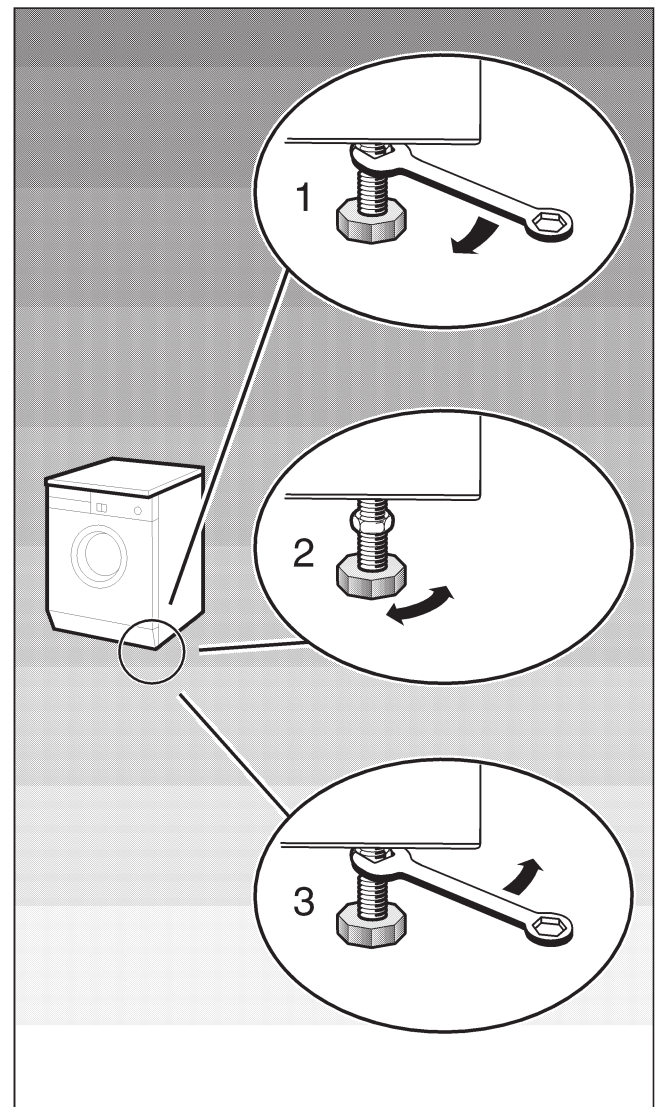

Figure 13.
If legs must be adjusted to level the washer (refer to Figure 13):
1. Loosen the locknuts as shown in illustration 1, of Figure 13.
2. Adjust the leveling (illustration 2, Figure 13) legs until the washer does not rock and is level, both front-to-back and side-to-side,
3. Hand tighten the locknuts against the washer base and then secure them in position using wrench, as shown in illustration 3, Figure 13.